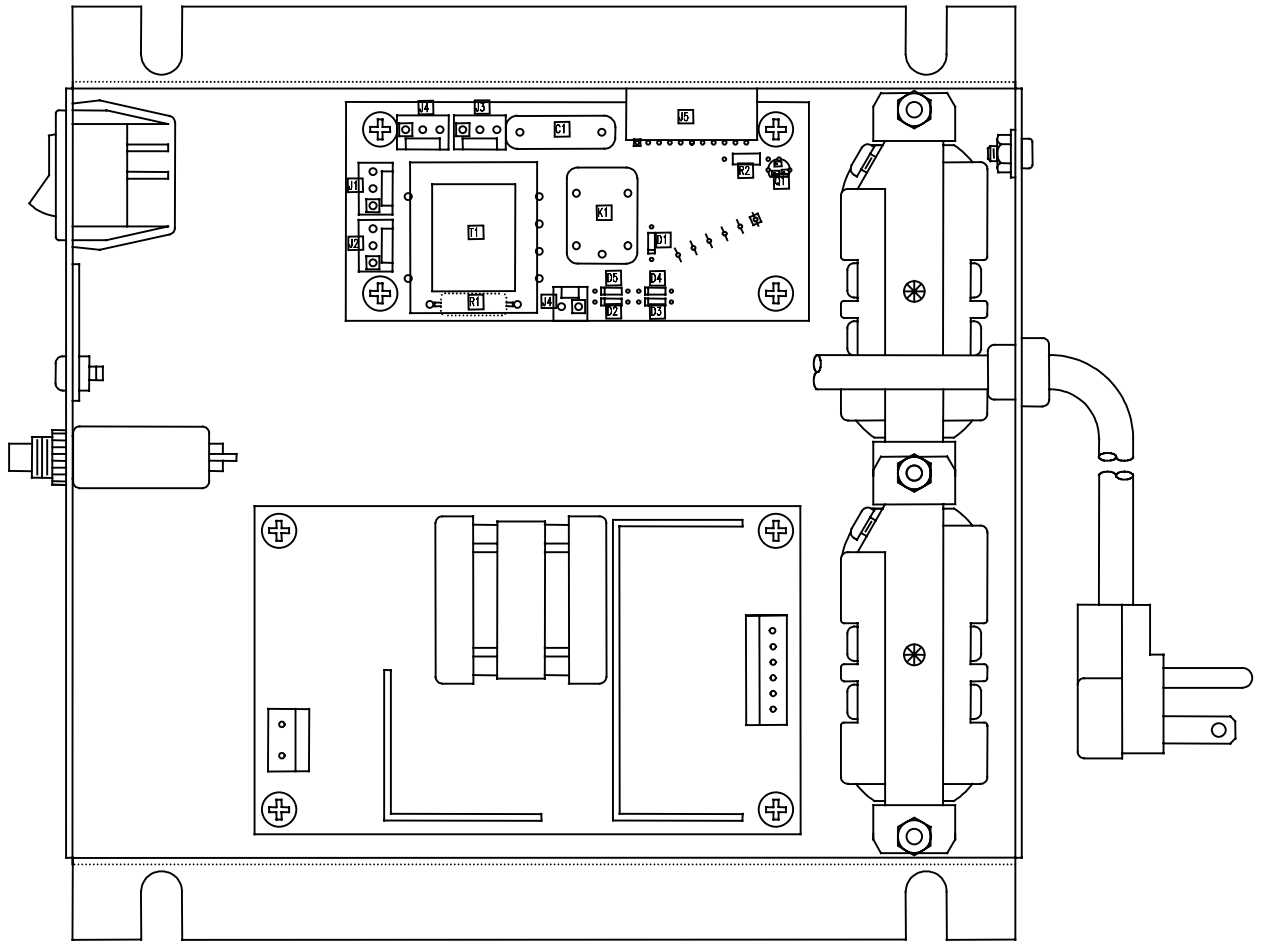

Figure 1
5. With the cover off, this allows access to the internal components of the power box. Positioning the power box with the red switch to the left, the AC cord to the right. The 40 watt power board will be the lower of the two electrical boards. (See Figure 1)